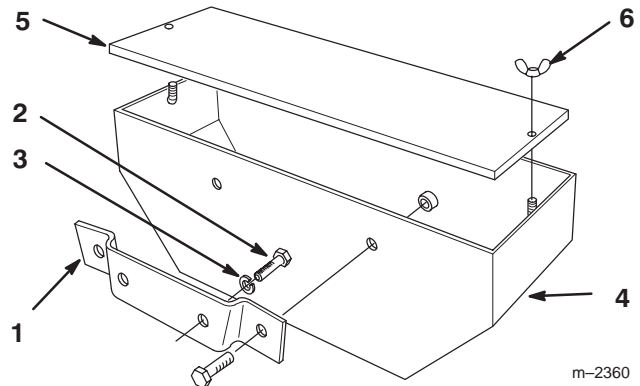

Figure 1
- To ensure proper handling and safety characteristics, rear weight box filled with sand or gravel or (4) rear weights must be attached to rear of traction unit.
3. Secure mounting bracket to rear frame with (2) 1/2-13 x 1-1/4" (32 mm) bolts and 1/2" (13 mm) lock washers (Fig. 1).
4. Secure weight box to mounting bracket with (2) 1/2-13 x 1-1/4" bolts (previously inserted into bracket) and locknuts (Fig. 1).
5. Fill weight box with approximately 90–100 lbs. of sand or gravel and install cover. Secure cover with (2) wing nuts (Fig. 1).